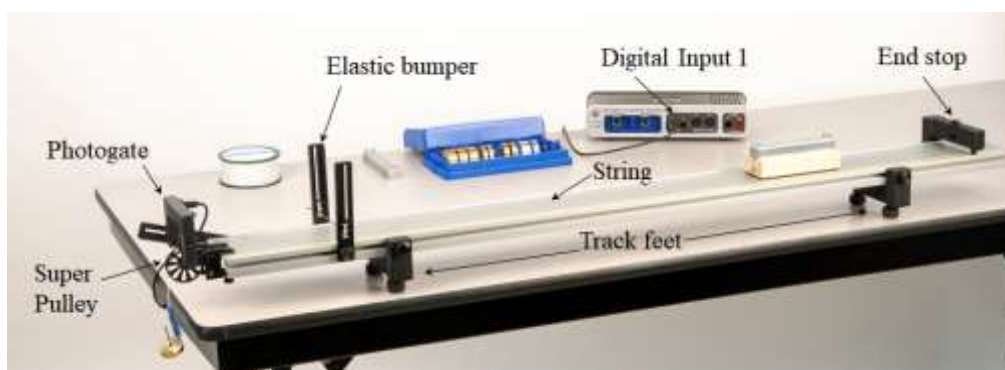

Figure 1: Measuring Coefficients of Friction
1. Attach the feet to the bottom side of the track, as shown in Figure 1, and level the track.
2. On the top side of the track, attach an end stop at one end, and the elastic bumper (made of two photogate brackets and the elastic band) about 15 cm from the opposite end of the track, as shown in Figure 1.
5. Attach the Super Pulley with its clamp at the end of the track with the photogate, so it is under the photogate, as shown in Figure 1.